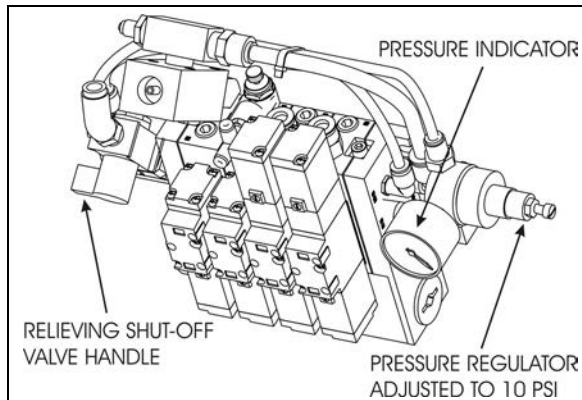

FIGURE 91: INFLATABLE SEAL RELIEVING SHUT-OFF VALVE
2. Deflate the inflatable seal by using the relieving shut-off valve located on the pneumatic component panel (FIGURE 91).
- Deflate the inflatable seal by using the relieving shut-off valve located on the pneumatic component panel (FIGURE 91). Turn the handle clockwise to deflate the seal. Make sure the pressure indicator reading is "0 psi".